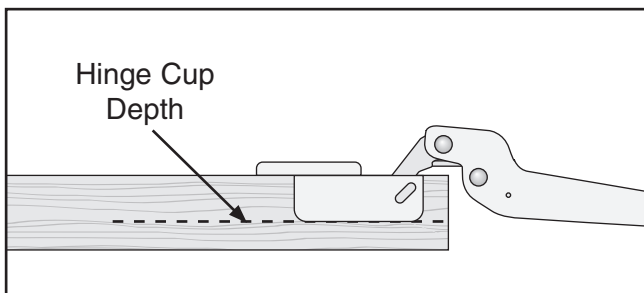

Figure 38. Hinge cup bottom depth marked on scrap board.
2. Place a hinge against the edge of the scrap board and mark the hinge cup depth on the side of the board, as shown in **Figure 38**.